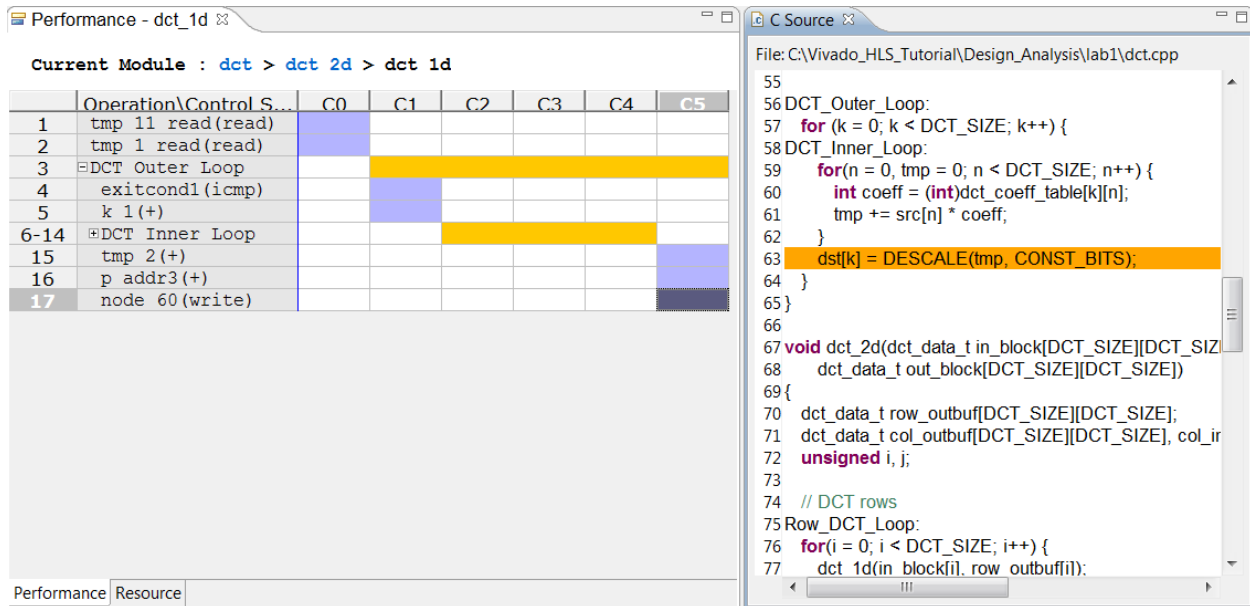

Figure 124: DCT Solution2 dct_1d Performance View
- In the **Performance** view, click loops `DCT_Outer_Loop` and `DCT_Inner_Loop` to view the loop hierarchy (Figure 124).
Figure 124 shows that this loop was not flattened because additional operations outside of DCT_Inner_Loop, at the level of DCT_Outer_Loop, prevented loop flattening. One of the operations that prevented loop flattening is highlighted in **Figure 124**, below.